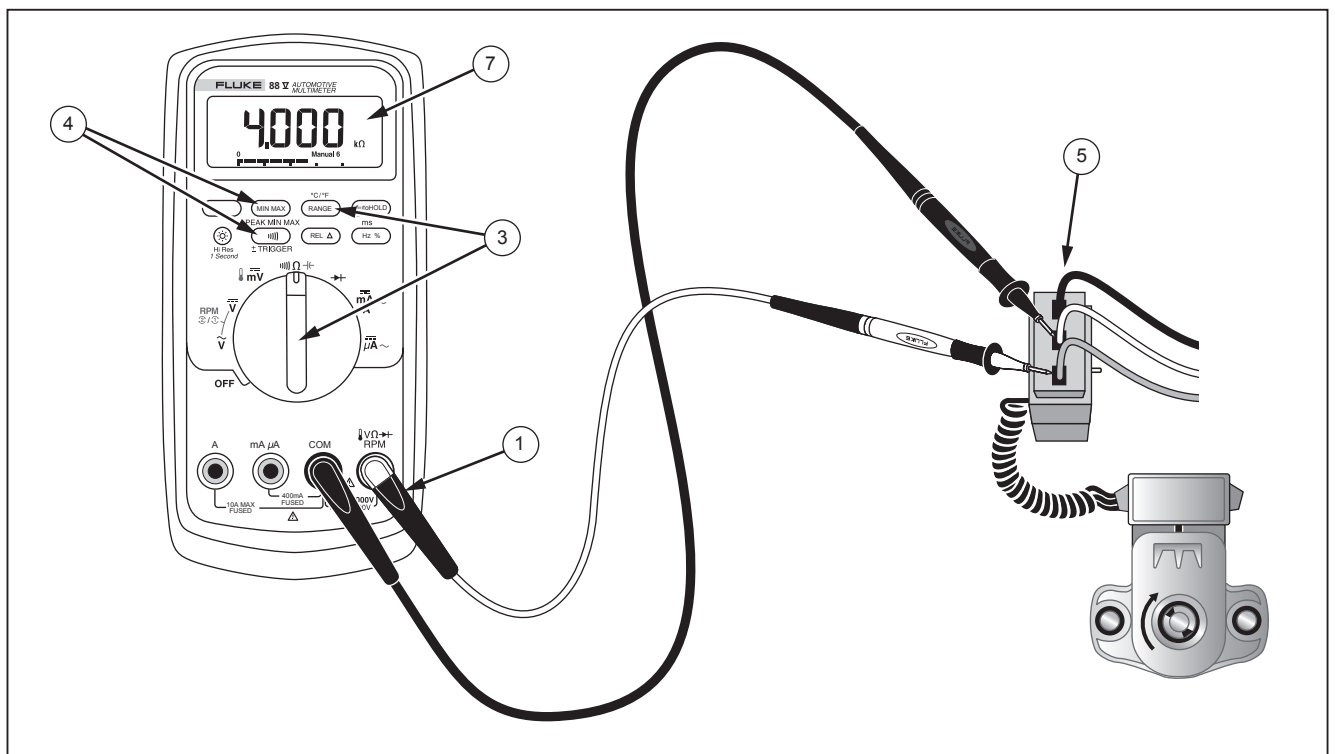

Figure 16. Testing the Throttle Position Sensor Resistance
1. Insert test leads in the input terminals shown in Figure 16.
5. Connect the test leads as shown Figure 16.
4. Connect the test leads as shown in Figure 16.